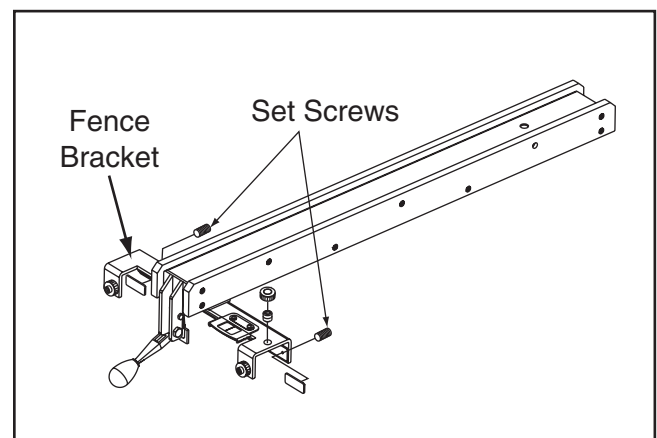

Figure 119. Location of set screws used to adjust fence parallelism and clamping pressure.
3. Equally adjust the set screws shown in **Figure 119** on the rear side of the front bracket as necessary until the clamping pressure is strong enough that the fence will not move as pressure is applied against it.